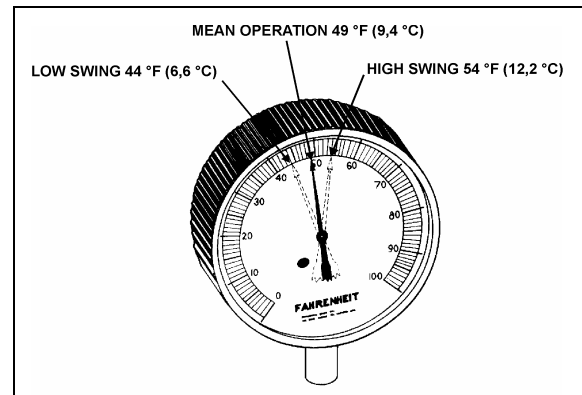

FIGURE 39: HIGH & LOW SWING TEMPERATURE AT REMOTE BULB 22047
6. Check approximately 5 readings of pressure at 2-minute intervals and convert to temperature using the vapor-pressure table (page 36). Likewise check the temperature reading at the remote bulb at the same 2-minute intervals and record the low and high swing readings of the needle (refer to Figure 39).
Example of readings taken at Figure 39: